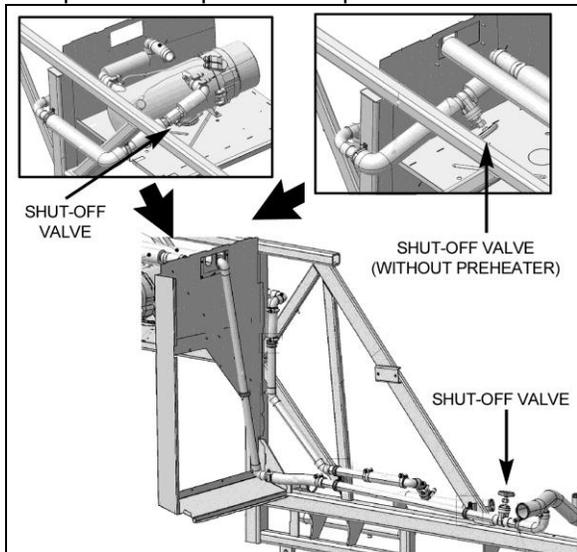
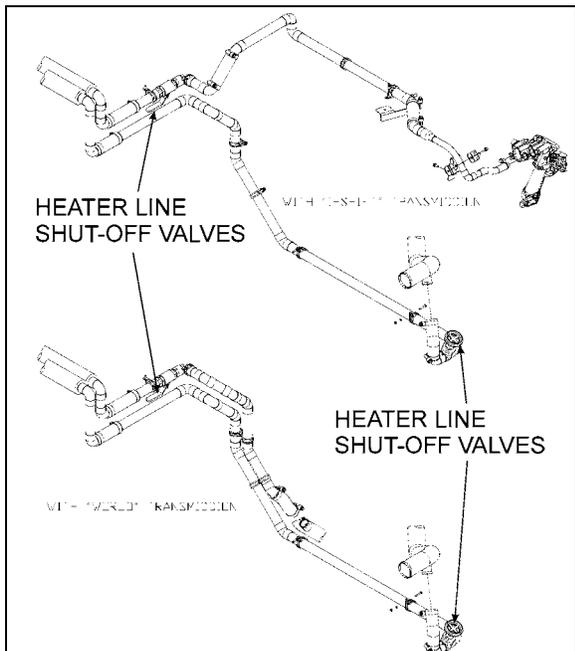

FIGURE 73: H3 SERIES HEATER LINE SHUTOFF VALVES
FIGURE 74: X3 SERIES HEATER LINE SHUT-OFF VALVES
3. Close the hot water lines shut-off valves located next the engine on street side (see Figure 73).
2. Close both heater line shutoff valves (Figure 73 or Figure 74). One is located in the engine compartment under the radiator fan gearbox, while the other one is located behind the L.H. hinged rear fender near the preheater.